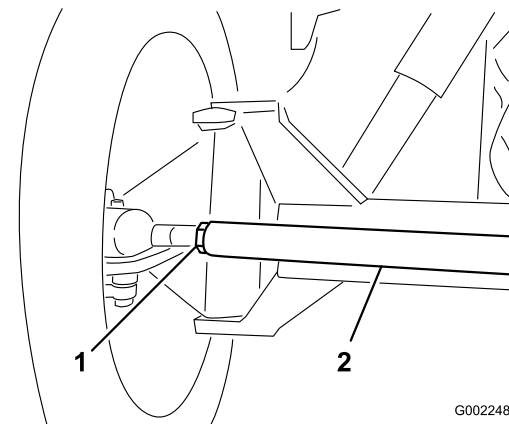

Figure 99
3. If the measurement does not fall within the specified range, loosen the jam nuts at both ends of the tie rod (Figure 99).